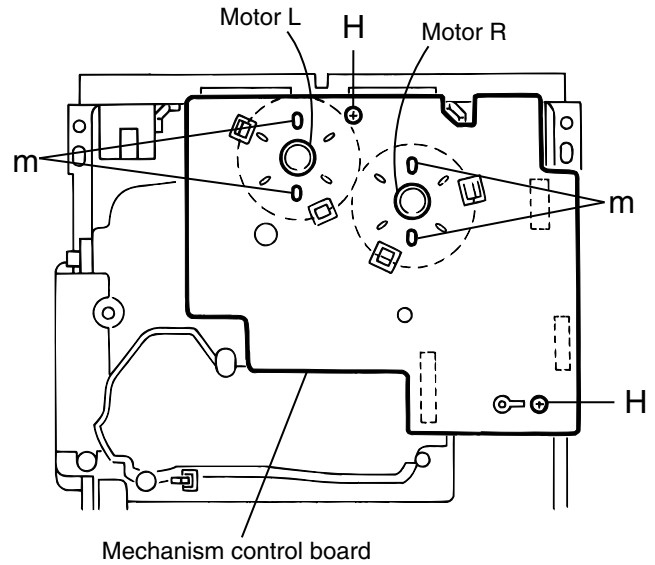

Fig.14
### ■ Removing the mechanism control board (See Fig.14, 15)
1. Absorb the four soldered positions m of the right and left motors with a soldering absorber(See Fig.14).
2. Remove the two screws H retaining the mechanism control board(See Fig.14).